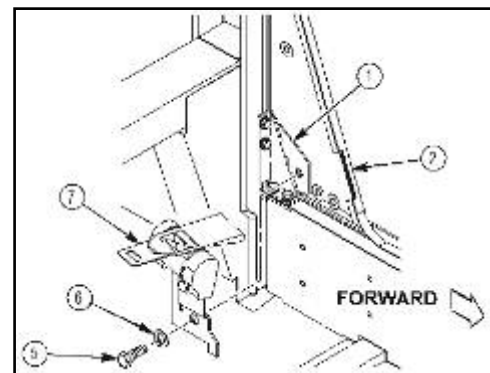

Figure 7a.
N. Remove capscrew (5), washer (6), and front seat belt with bracket (7) from bracket (1) at B-pillar sail panel (2) as shown in figure 7a. Repeat procedure for opposite side of vehicle. Discard capscrews (5) and washers (6).